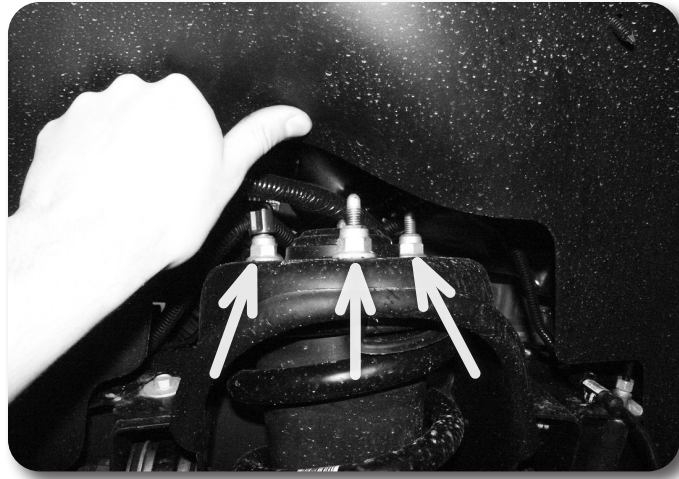

Figure 10
21. Remove the three upper strut mounting nuts **Figure 10** and remove the strut from the vehicle. **DO NOT** remove the center strut rod nut, it is under extreme pressure. Save nuts.